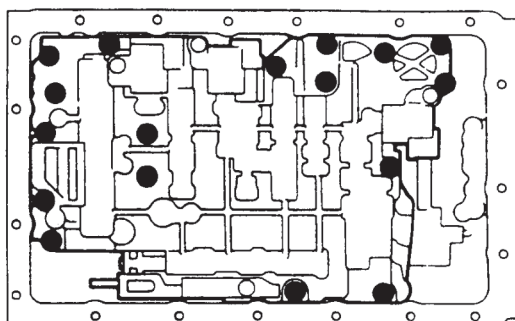

Fig. 14 Valve Body Bolt Locations
(6) Remove valve body bolts. Locations for seventeen bolts are outlined in Figure 14.
- (5) Install valve body bolts (Fig. 14). Tighten bolts evenly to 10 N•m (7 ft-lbs) torque.